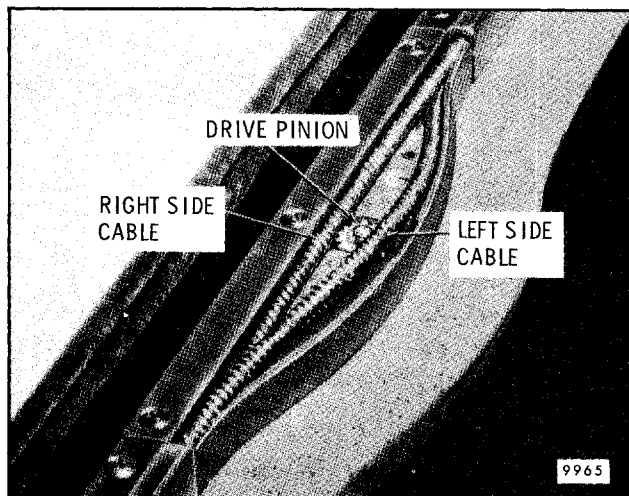

Fig. 8-121-Drive Cables Installed - E and K Styles
4. Route drive cable through the curved rearward track of the drive cable housing and into the lower track of the right front guide (Fig. 8-121).